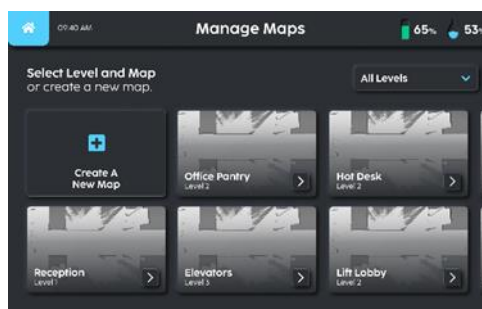

Fig 2
2. Turn on the Refuel Station by flipping the circuit breaker on. (Fig 2).